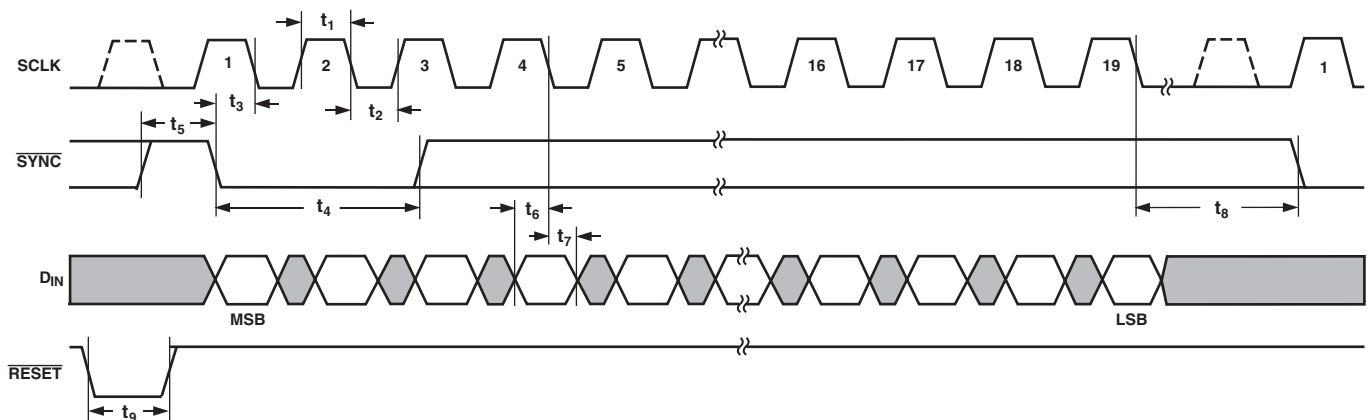

Figure 1. Serial Interface Timing Diagram
- 1See Timing Diagrams in Figure 1.